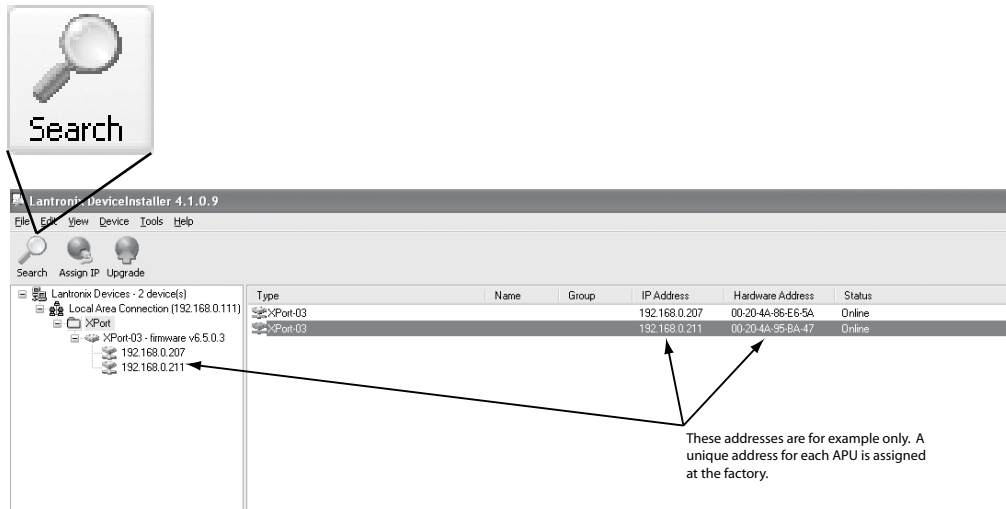
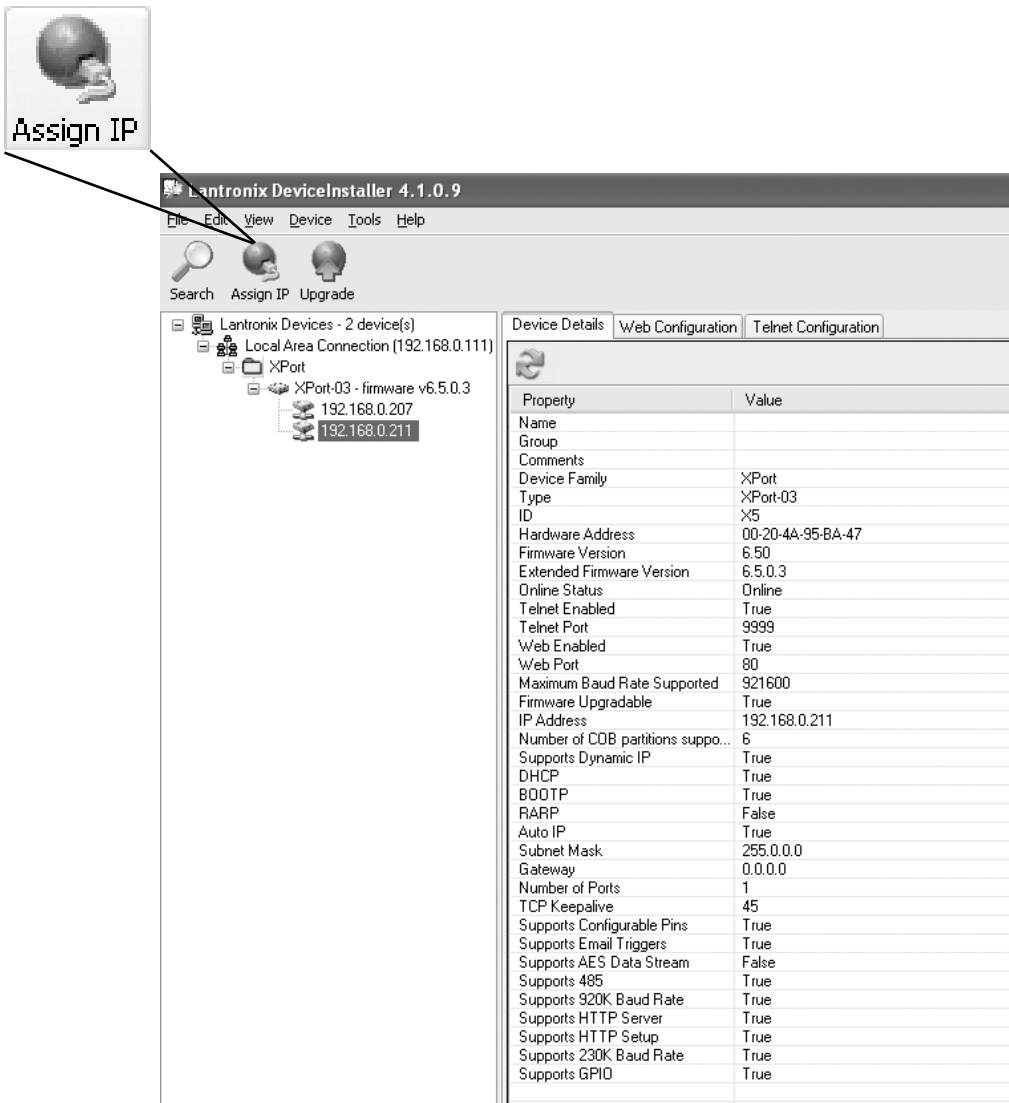

Figure 7-2: Lantronix® DeviceInstaller screen with Xport devices identified and the Search button
Figure 7-3: Device Details screen for selected Xport device
4. The software may automatically detect Xport devices. If not, clicking the Search button, Figure 7-2, will allow the program to locate and display, as in Figure 7-3, the Xport connected devices
The MAC address of the APU is found on a removable label which covers the RJ45 connector upon shipment from the factory. It also appears on the serial number label of the APU (the Hardware Address noted in Figure 7-2).
6. Select the **Assign IP** button, Figure 7-3, from the upper right hand side of the screen